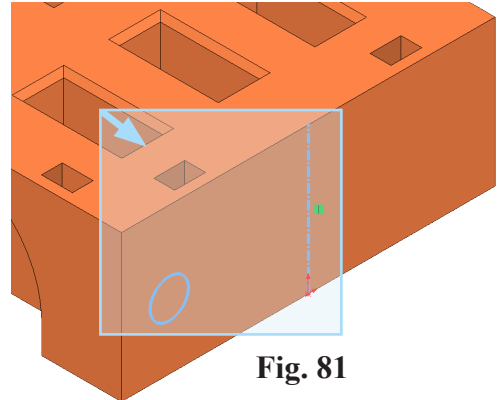
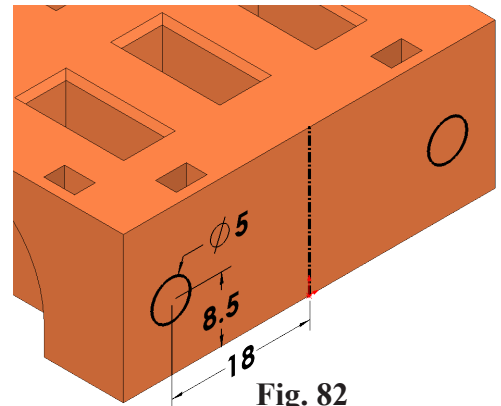

Fig. 81
Fig. 82
Step 8. Drag a selection to select centerline and circle, **Fig. 81**.
Step 10. Click **Smart Dimension**  (S) on the Sketch toolbar.
Step 11. Add dimensions, **Fig. 82**.